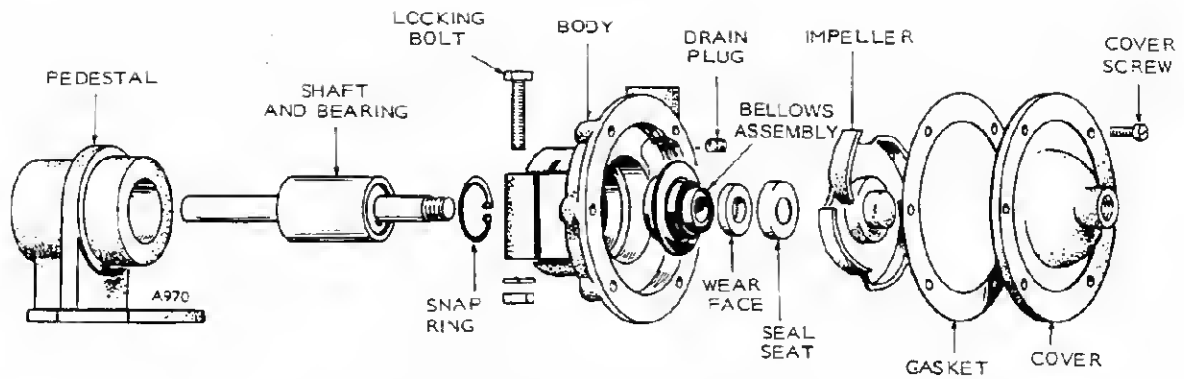

FIGURE 28. CENTRIFUGAL PUMP 132-0110
**Do not use the existing neoprene impeller water pump in the hot water side of the cooling system. Heat or soluble oil (in many rust inhibitors and anti-freezes) will damage the impeller. Instead, connect the neoprene impeller pump on the cold water side. Use a metal impeller, centrifugal-type water pump (Qnan 132-0110 or equal) in the fresh water side. See Figure 28.**